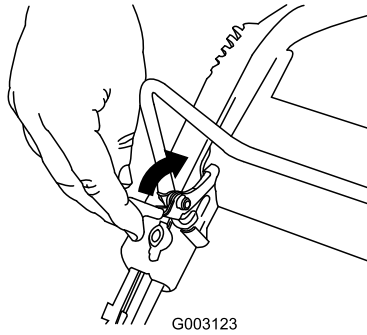

Figure 22
1. Pull the control bar lock back (Figure 22).